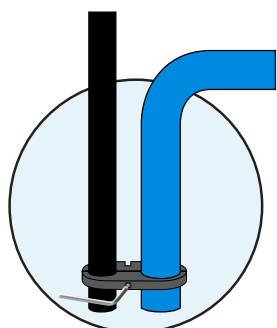

Fig 2.
3. Place the other half of the clamp around the uprights and secure the two sections back together with the bolt. (Fig 2) Do not tighten at this stage.